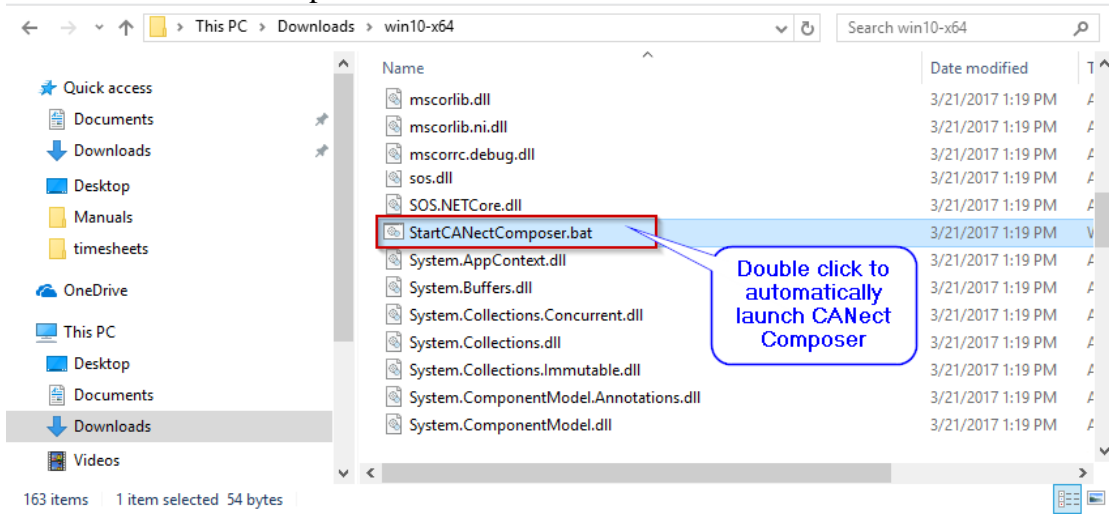

Figure 13 CANectComposer.bat File
2. Double click the .exe file to run it, as shown in Figure 13.